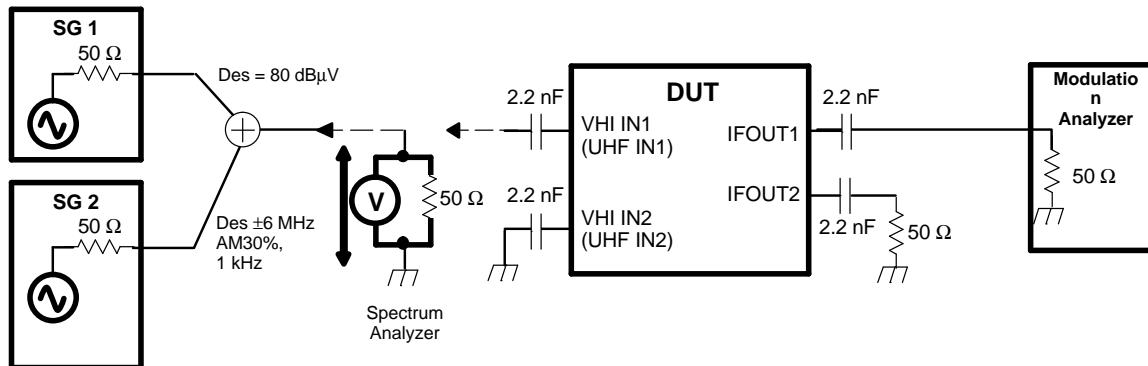

Figure 17. VHF-L 1% Cross-Modulation Distortion Measurement Circuit
(4) DES: $V_{IN} = 80$ $\text{dB}\mu\text{V}$, UNDES: $f_{\text{des}} \pm 6$ MHz AM 1 kHz 30%, DES/CM = S/I = 46 dB (see Figure 17).